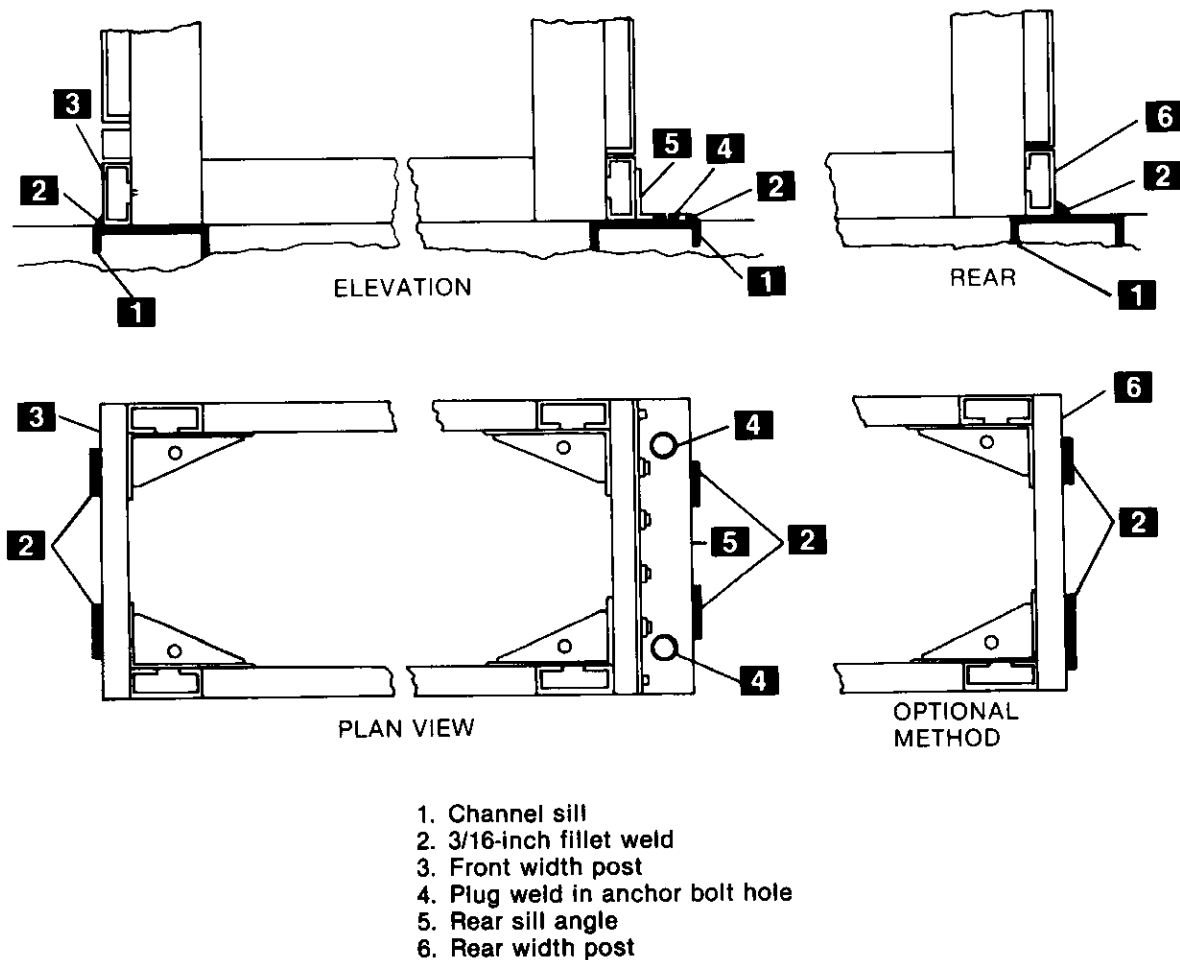

Fig. 4-19. Indoor equipment weld anchoring
2. **ANCHORING BY WELD**—An alternate method of anchoring the equipment to its foundation is to weld the equipment to floor sills (or the floor itself if constructed of steel). Several methods, shown on Fig. 4-19, are available to the purchaser for welding the equipment to the channel sills.
a. *The front of the equipment is attached to the embedded channel sills (1), Fig. 4-19, by two $\frac{3}{16}$ -inch fillet welds (2). It is recommended that two welds, each 2½ inches long (min.), be used for each section to firmly tie the bottom width post (3) to the channel sill.*
- The first method is by plug welds (4), Fig. 4-19, using the anchor bolt holes in the rear sill angle (5). The plug weld should receive a minimum $\frac{1}{8}$ -inch bead around the entire circumference of the anchor bolt hole.
- A second method of securing the rear sill angle (5) to the channel sill (1) is the use of two linear fillet welds (2) for each section. It is recommended that each weld be 2½ inches long (min.) with a $\frac{3}{16}$ -inch fillet (min.).